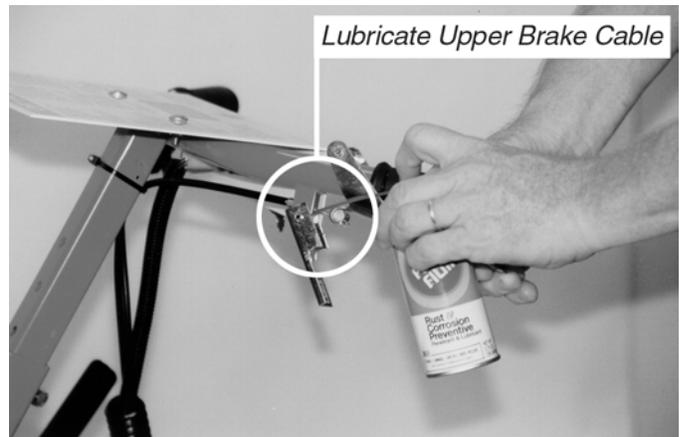

Figure 24
3. Lubricate the upper brake cable with FLUID FILM™ or similar lubricant (*Figure 24*).